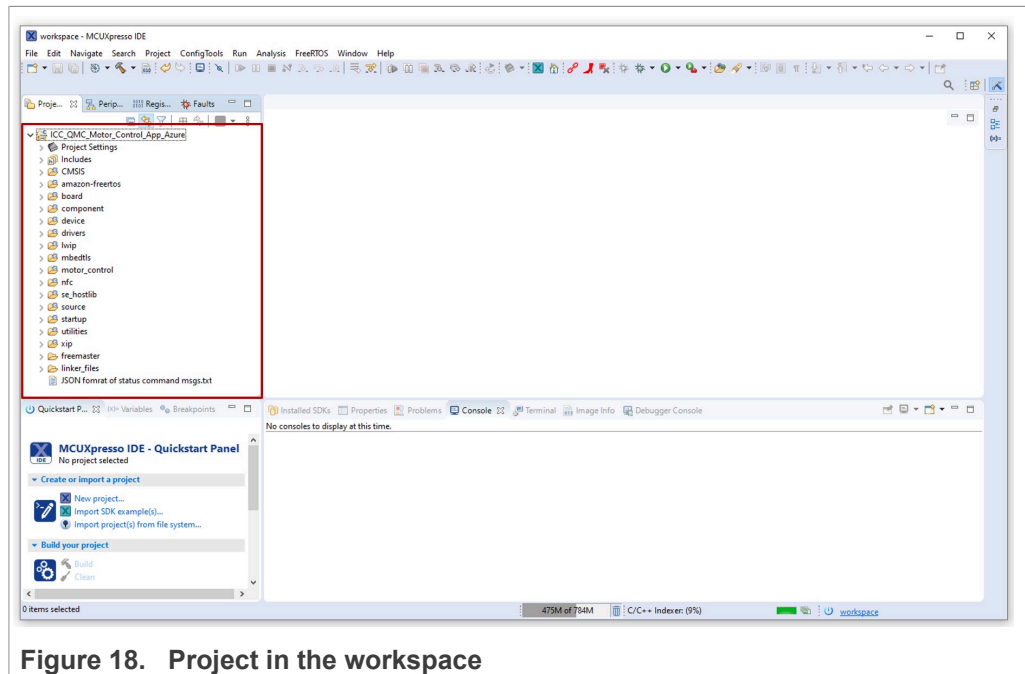

Figure 18. Project in the workspace
- The project should now be visible into your MCUXpresso workspace as shown in Figure 18: